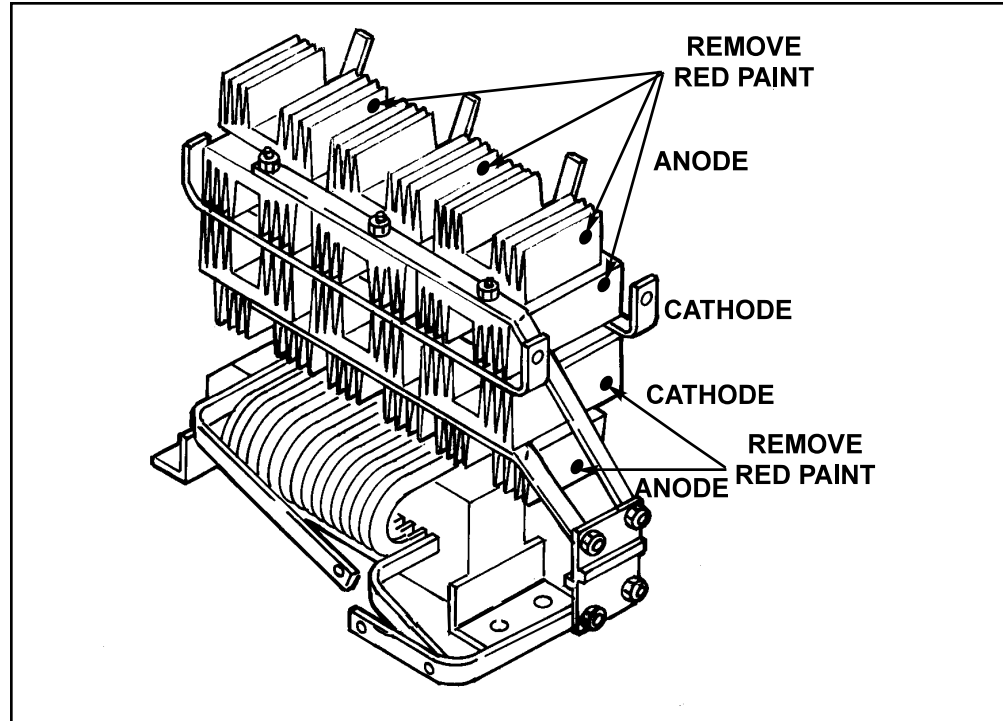

FIGURE F.16 - Heat Sink Assembly Test Points
3. Remove the red insulating paint from heat sink test points. See Figure F.16.